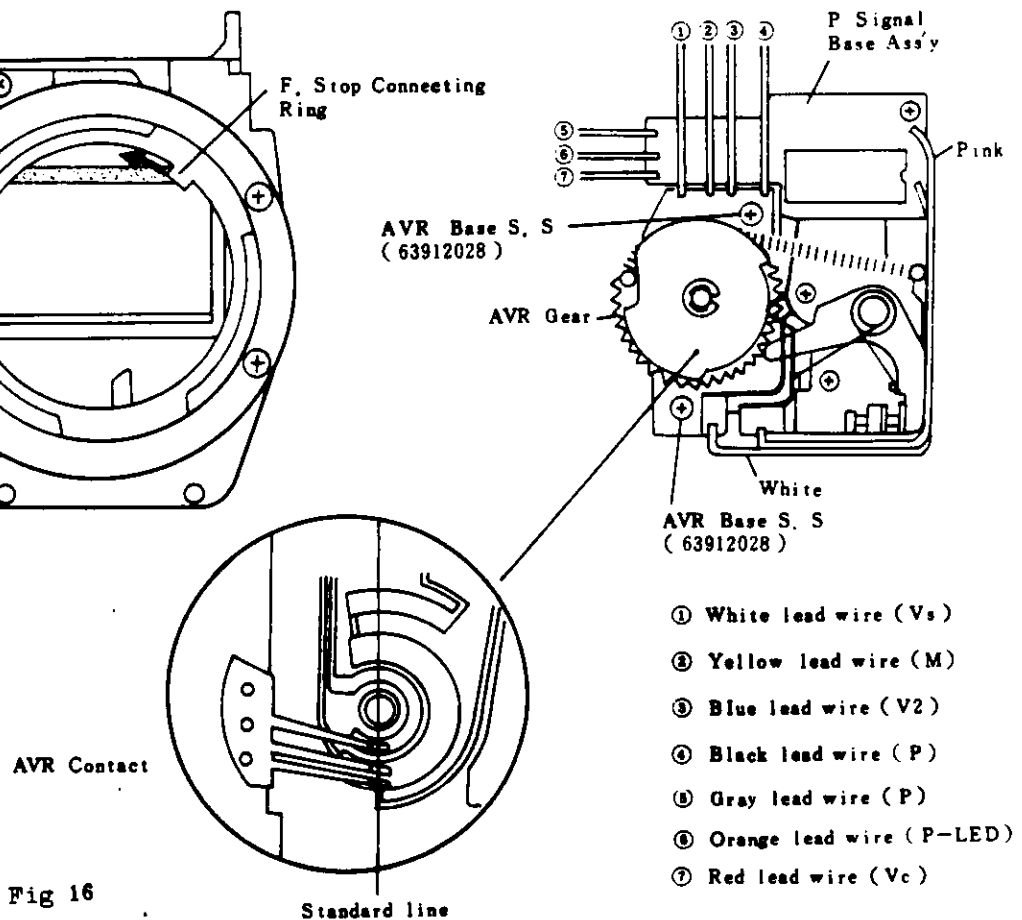

Fig 16
- b) Align the notched of AVR Contact with standard line as shown in (Fig 16), and while maintaining this position carefully engage the AVR Gear to the Gear of F. Stop Connecting Ring on the Mirror Box Ass'y. And temporarily, tighten two AVR Base Set Screws (63912028×2).